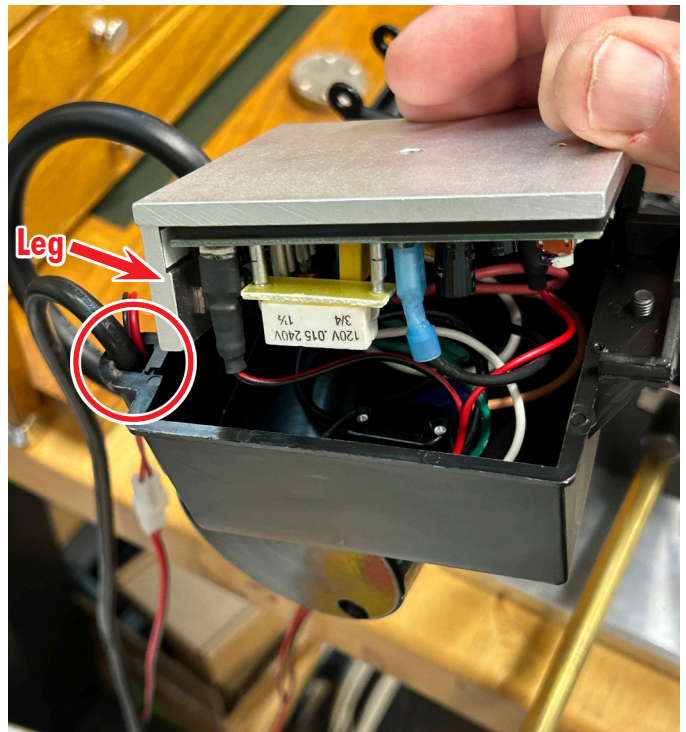

FIGURE 15
L. With the two wires installed, flip the control board back over so the leg is towards the side of the housing that has all of the incoming wires on it. Then gently push the wires and the control board back into the housing (see Figure 15).